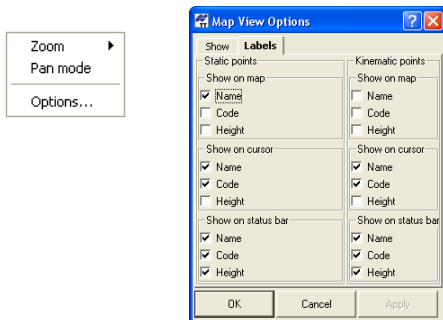

Figure 3-16. Pop-up Menu and Map View Options
Click **Options** on the pop-up menu to show grid and point names, codes and heights, then right-click anywhere on the scheme (Figure 3-16 on page 37).
1. Click and enable the desired fields to display them on the scheme (Figure 3-16 on page 37).